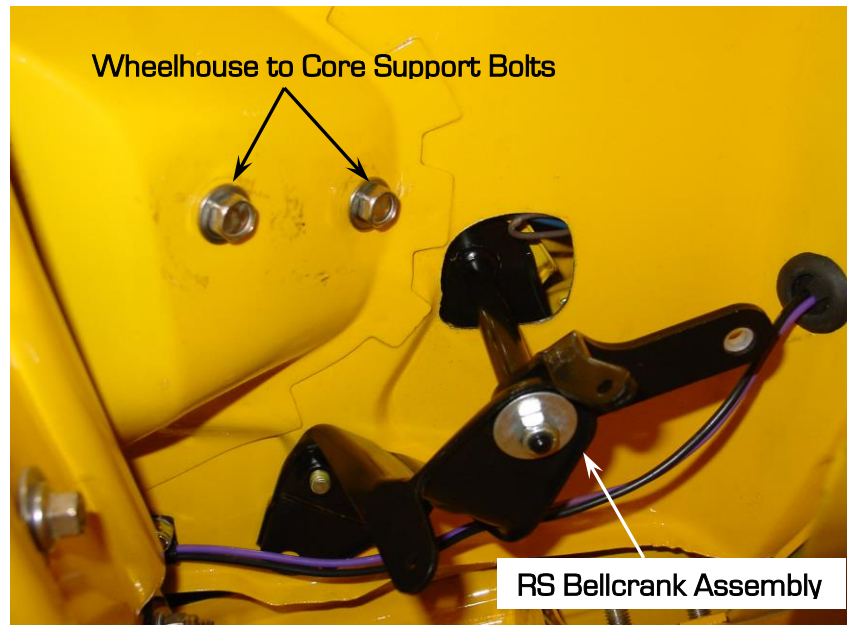

Figure 9 - Locate Core Support Bolts
2. Locate the two bolts that attach the inner wheelhouse to the core support underneath the front fender area (Figure 9).